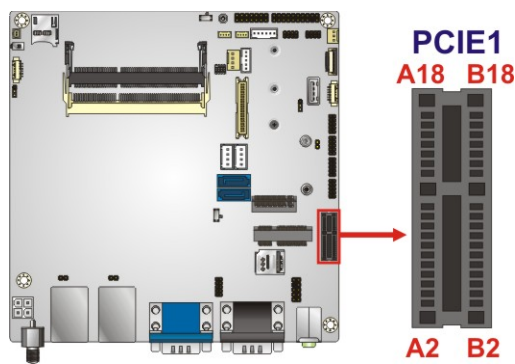

Figure 3-18: PCIe x1 Slot Location
- CN Location:** See **Figure 3-18**